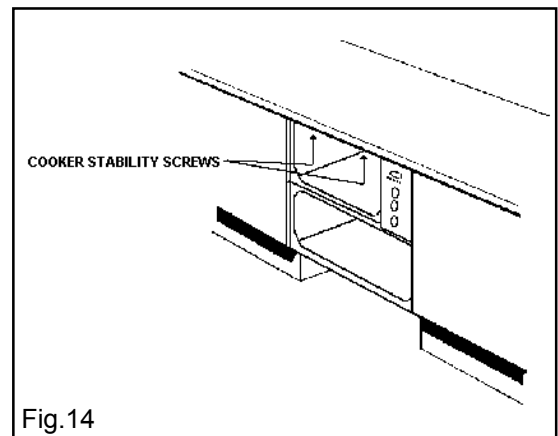

Fig.14
- When the appliance is fully housed, screw the stability screws (supplied with the appliance) into the underside of the work surface in the positions indicated (see Fig. 14), taking care not to distort the trim. It is advisable to turn each screw alternatively to avoid damaging the trim.